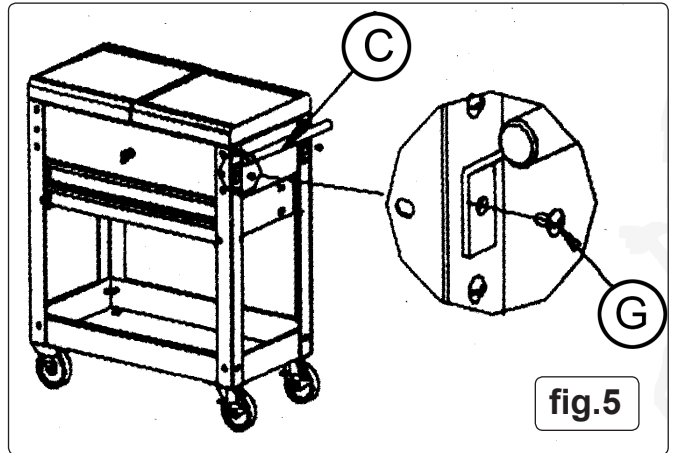

fig.5
- 4.5 Referring to fig.5, fix the handle (C) to the same end of the trolley as the castors using two bolts (G). Use the second from the top bolt position.